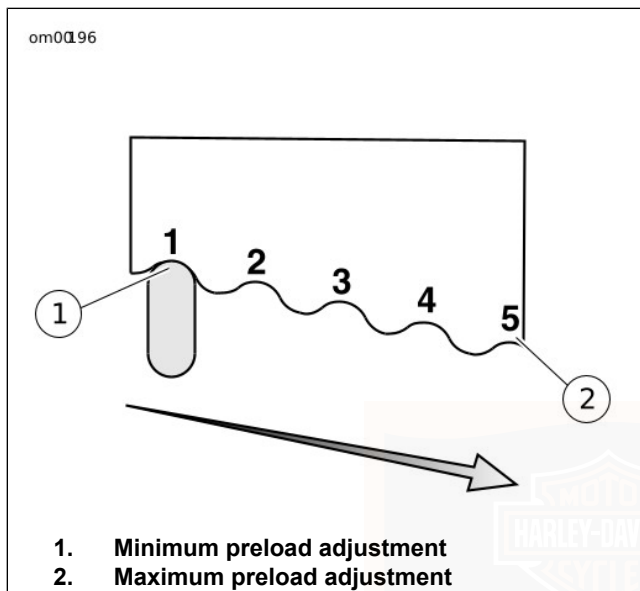

Figure 14. Preload Adjustment
2. See Figure 14. To adjust the rear shock absorber spring preload, turn the spring adjusting cam to the desired position. When returning to off-cam position, cams should be backed off in opposite direction.